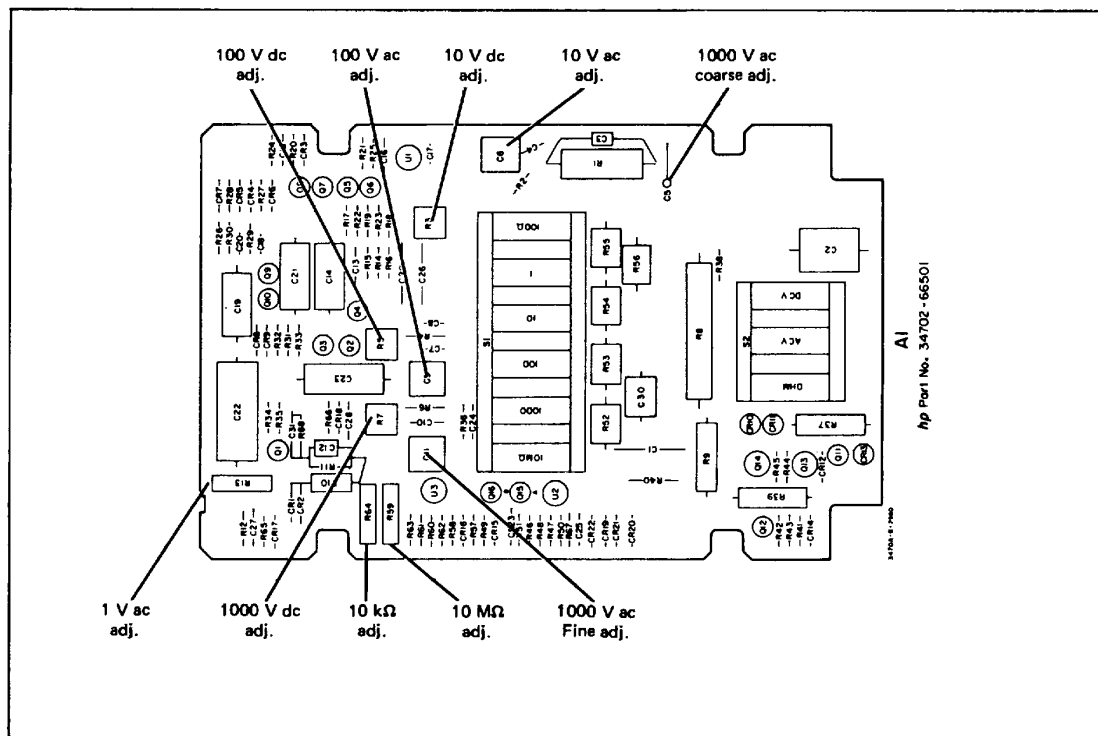

Figure 5-5. Adjustment Locator.
*It will be necessary to turn the instrument upside down to obtain access to the 34702A adjustments. Figure 5-5 shows the location of all adjustments in the Model 34702A.*